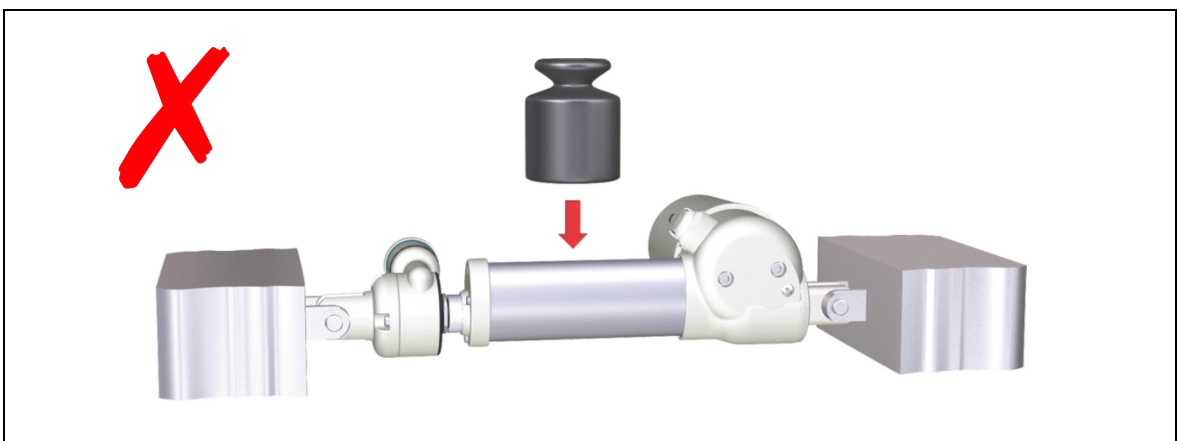

Figure 22 The effect of the installation position
- ▶ The release force will increase, for example, if the drive unit is subjected to a lateral force from other attachments. The resulting release force may be far over the specification. (Figure 22 shows a horizontally installed drive unit with a lateral force acting upon it.)